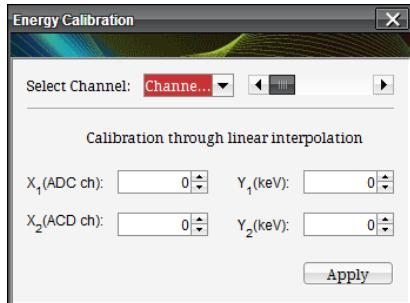

Fig. 7.11: Energy Calibration window
- **“X-Axis Unit” menu:** for Energy plot mode only, selects the unit of measurement of the Energy x-axis in the histogram between “ADC Counts” and “KeV”. In order to define a KeV scale, the “Calibrate” button opens the Energy Calibration window (Fig. 7.11) where it is possible to calibrate the spectrum by a dedicated menu: a customized Calibration line can be built here. Different calibration lines are available for the different channels;